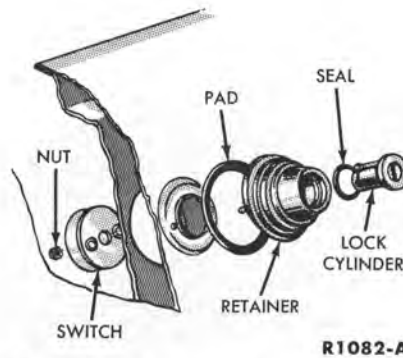

FIG. 29—Tailgate Switch and Lock
3. Remove the nuts retaining the lock and switch, and then remove the lock and lock cylinder from the tailgate (Fig. 29).